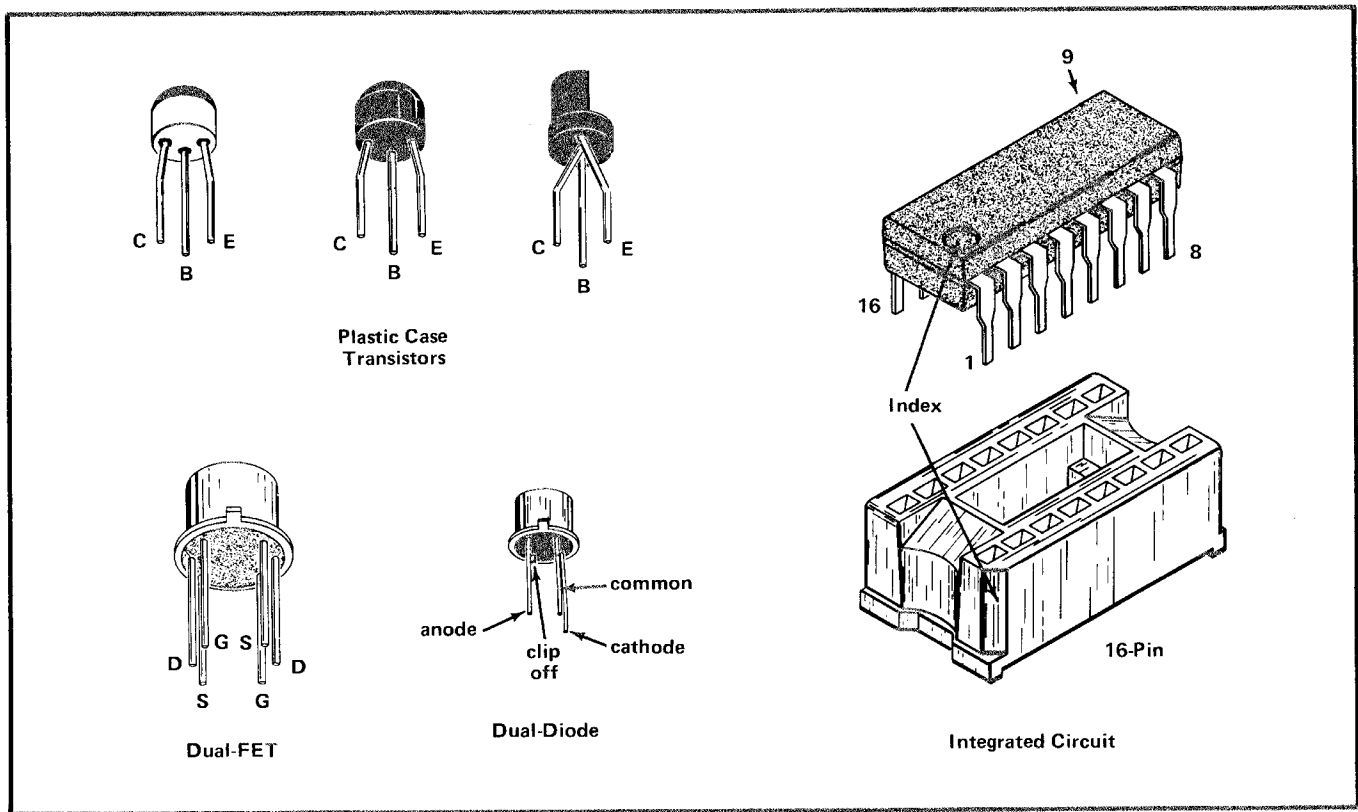

Fig. 4-1. Electrode configuration for semiconductors used in this instrument.
**Semiconductor Lead Configuration.** Fig. 4-1 shows the lead configuration of the semiconductor devices used in this instrument.
**A. TRANSISTORS AND INTEGRATED CIRCUITS.** The best check of transistor and integrated circuit operation is actual performance under operating conditions. If a transistor or integrated circuit is suspected of being defective, it can best be checked by substituting a component known to be good; however, be sure that circuit conditions are not such that a replacement might also be damaged. If substitute transistors are not available, use a dynamic tester (such as Tektronix Type 576). Static-type testers may be used, but since they do not check operation under simulated operating conditions some defects may go unnoticed. Fig. 4-1 shows base pin and socket arrangements of semiconductor devices. Be sure the power is off before attempting to remove or replace any transistor or integrated circuit.